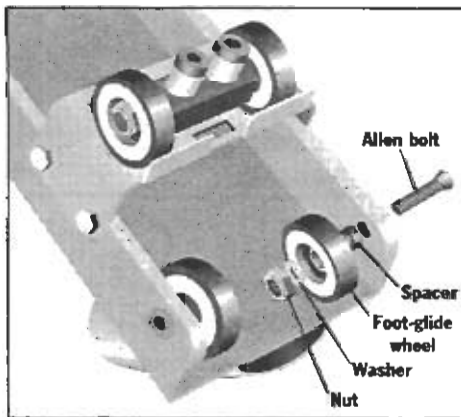

Figure 5
4. Install the new wheels as shown. Make sure the bolts, washers, wheels and spacers are installed in the order indicated (Figure 5).